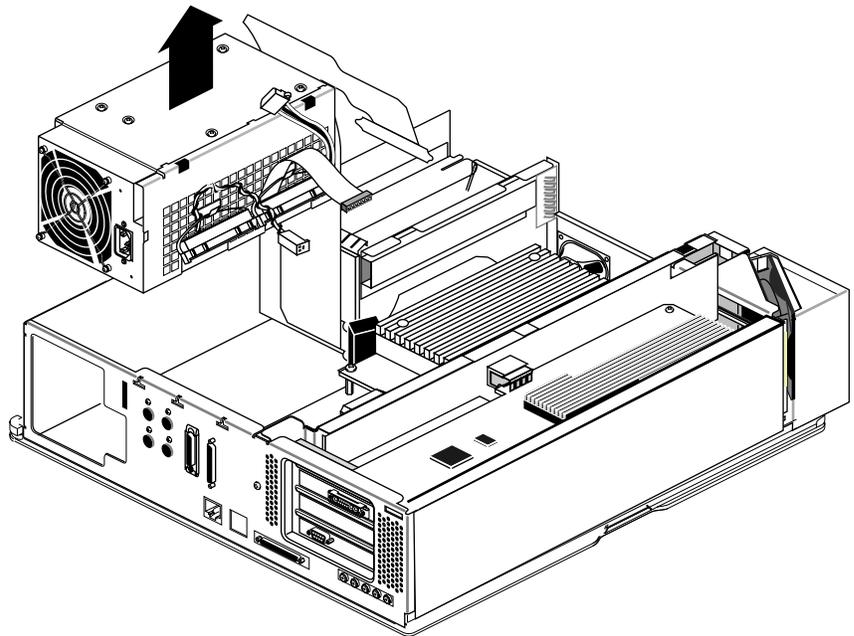

Figure 2-14 Lifting the Power Supply From the Chassis
- Lift the power supply up and out of the chassis, as shown in Figure 2-14.